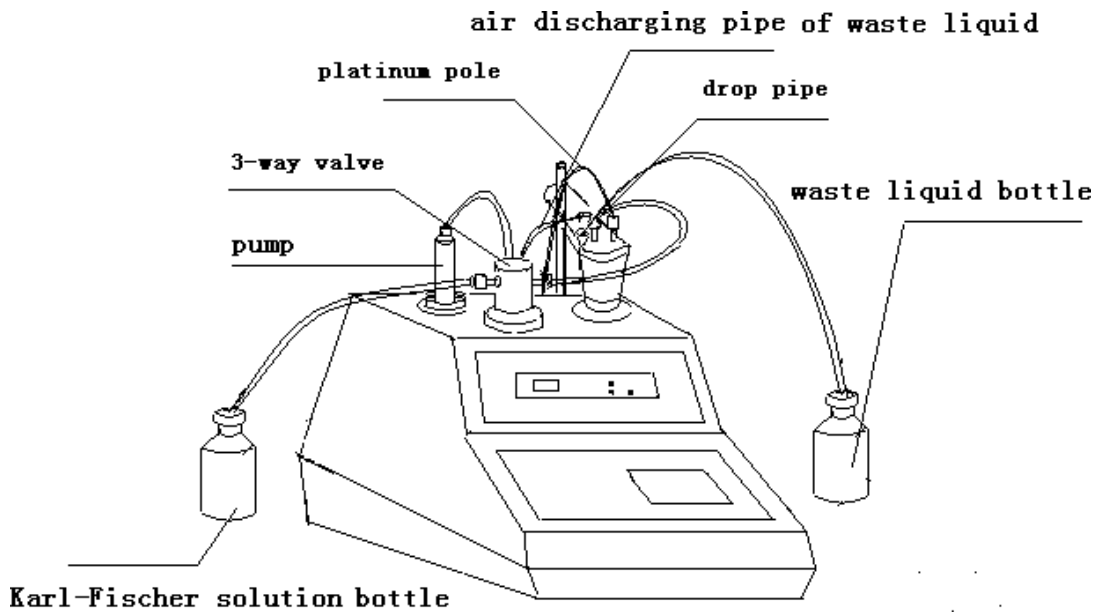

Fig2.
- d) Prepare an ordinary reagent bottle as a waste liquid bottle, screw on the capsule connected with a pipe, connect the thicker end of the pipe into the "gas discharge" connector on the instrument, and put the capsule on the right place according to fig.2
- e) According to fig.2 also, install electrode and drop pipe in the reaction bottle, put the mixing rod into the bottle, switch on mixing power, adjust the mixing speed knob to the appropriate level.